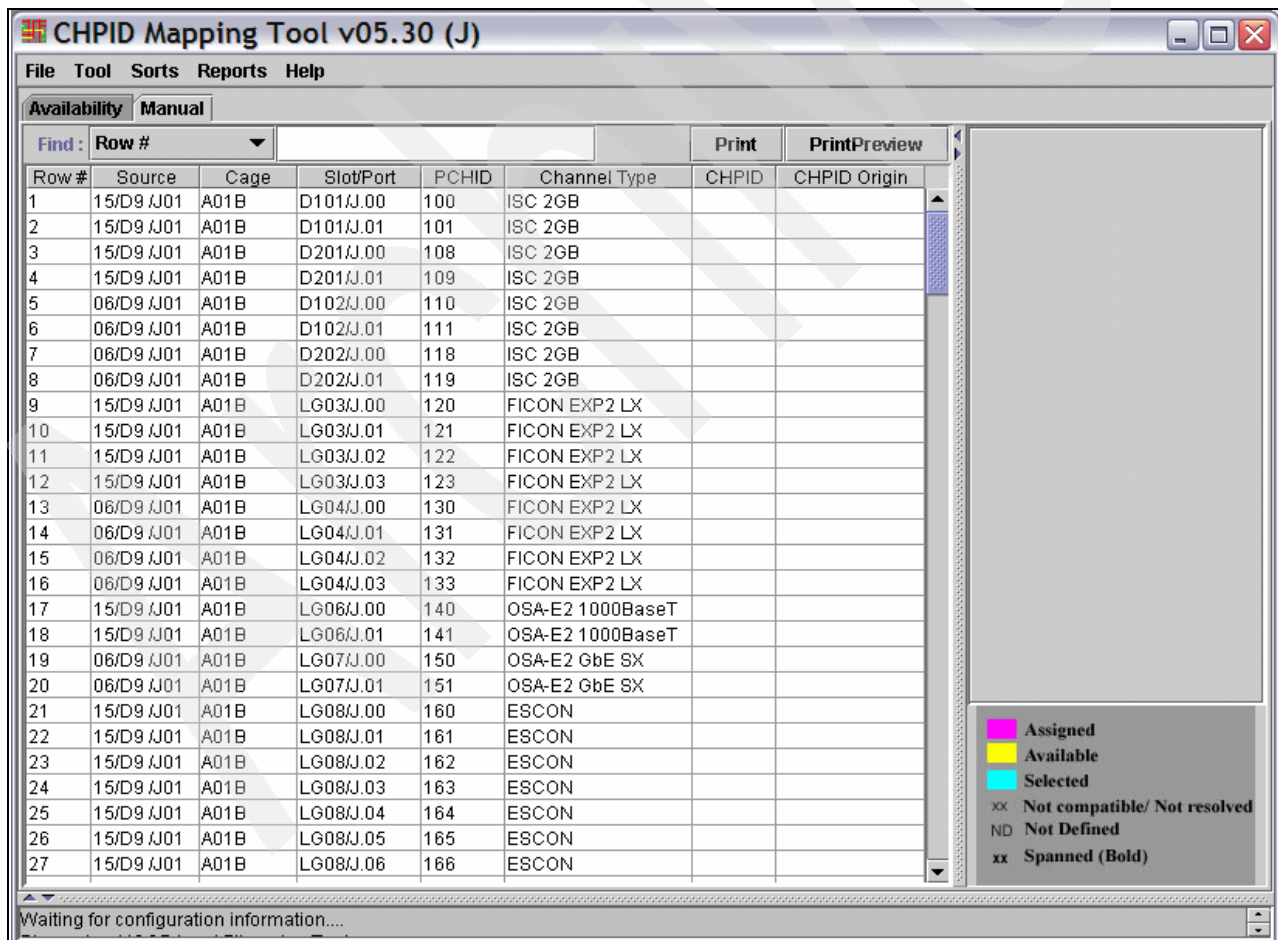

Figure 4-52 CMT - Importing CFReport Order file
5. The CHPID Mapping Tool displays the information from the CFReport on the left-hand side of the screen (Figure 4-52).